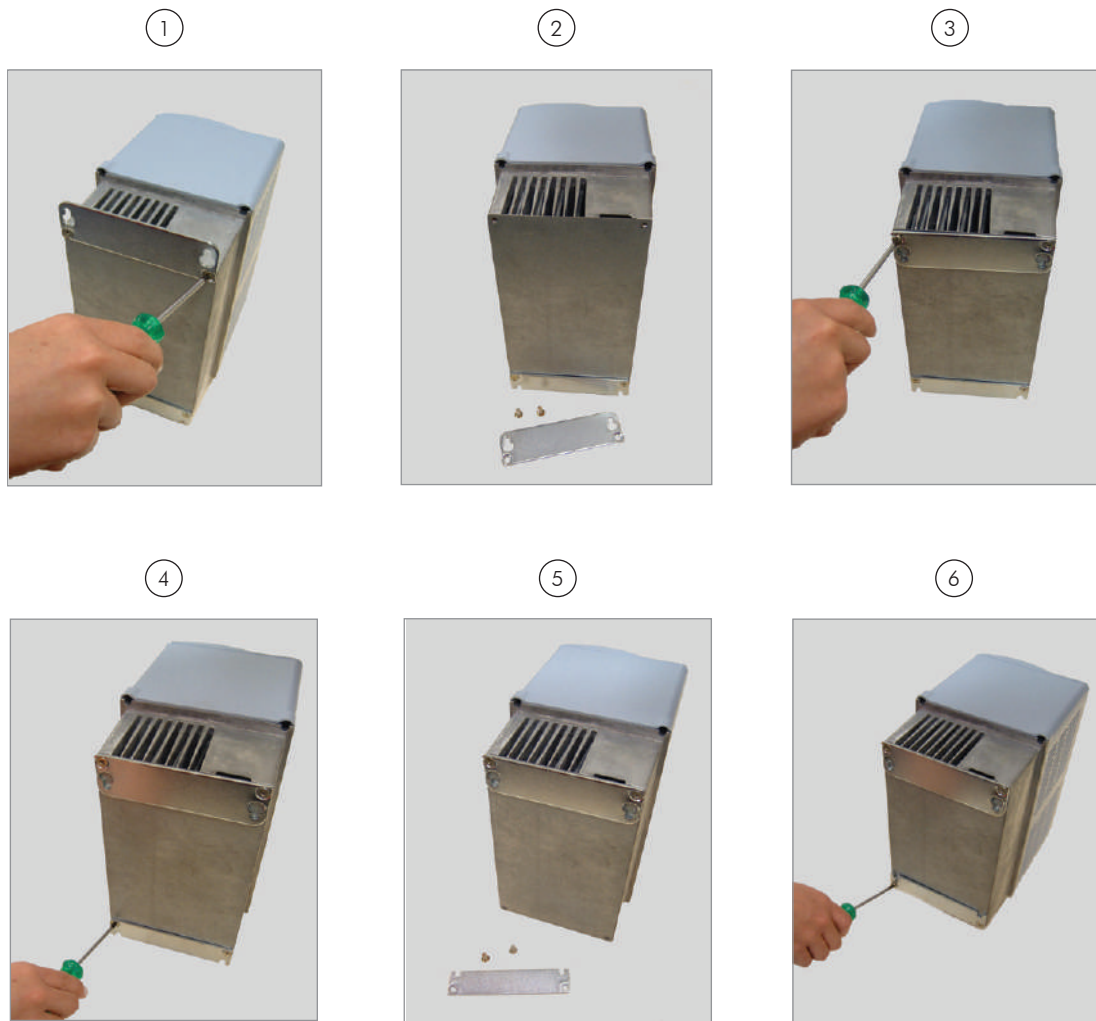

Figure 3.4 - Repositioning the mounting supports
- ☑ The mounting supports shall be removed and repositioned as illustrated in Figure 3.4 on page 3-6.